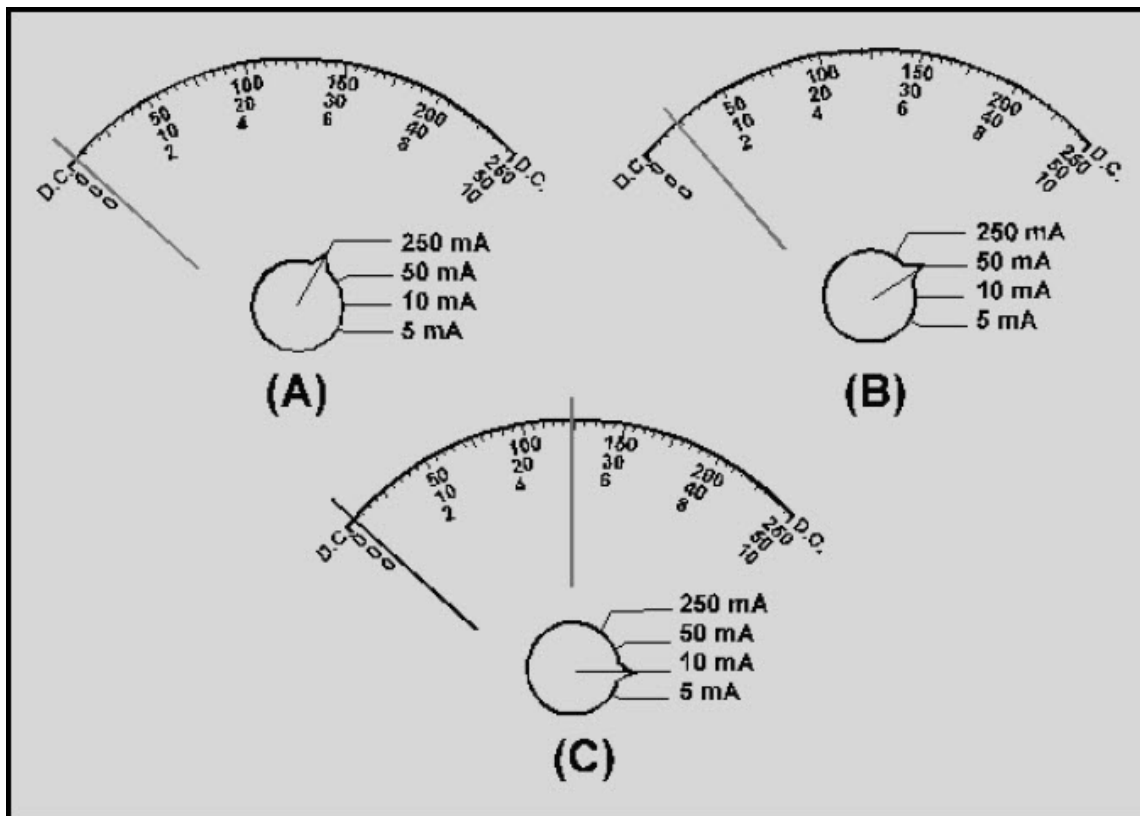

Figure 1-24 Reading an ammeter at various ranges
Part of the correct use of an ammeter is the proper use of the range selection switch. If the current to be measured is larger than the scale of the meter selected, the meter movement will have excessive current and will be damaged. Therefore, it is important to always start with the highest range when you use an ammeter. If the current can be measured on several ranges, use the range that results in a reading near the middle of the scale. Figure 1-24 illustrates these points.
Figure 1-24(A) shows the initial reading of a circuit. The highest range (250 milliamperes) has been selected and the meter indication is very small. It would be difficult to properly interpret this reading with any degree of accuracy. Figure 1-24(B) shows the second reading, with the next largest range (50 milliamperes). The meter deflection is a little greater. It is possible to interpret this reading as 5 milliamperes. Since this approximation of the current is less than the next range, the meter is switched as shown in figure 1-24(C). The range of the meter is now 10 milliamperes and it is possible to read the meter indication of 5 milliamperes with the greatest degree of accuracy. Since the current indicated is equal to (or greater than) the next range of the ammeter (5 milliamperes), the meter should NOT be switched to the next range.